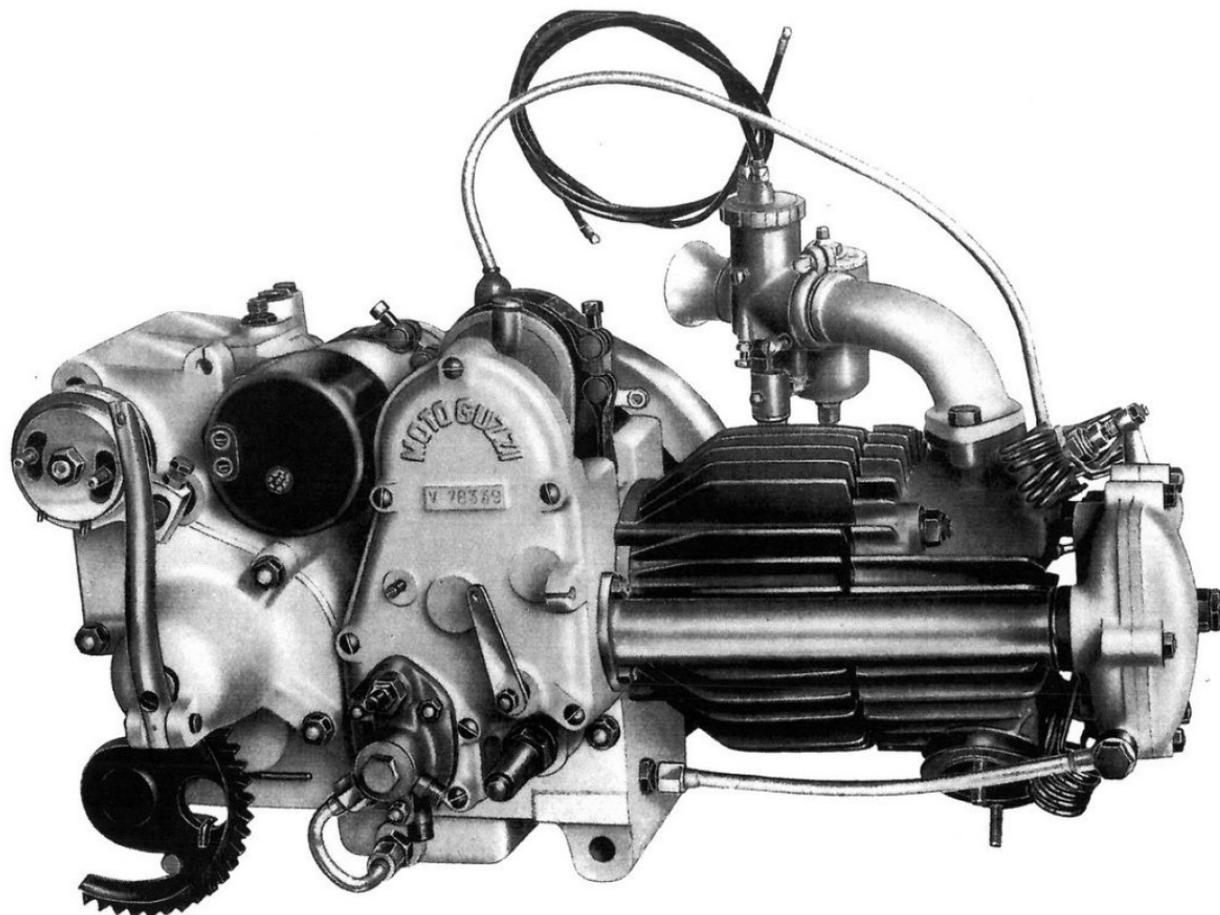

Fig. 6 – Engine unit – timing side
- Figure 6- G.T.V. Unit motor (timing cover side).